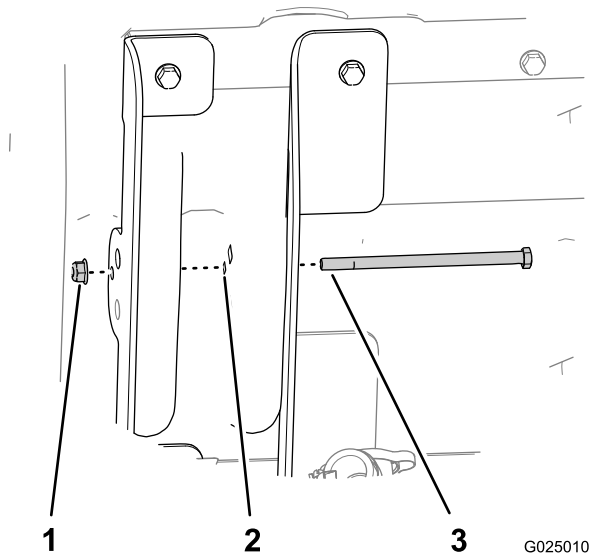

Figure 5
(long flanges), bed structure, and the outboard bed-lift bracket (short flanges) as shown in Figure 5.
8. Secure the bolt with the flange nut (5/16 inch) hand tight (Figure 5).
11. Tighten the flange nut that secure the bolt (5/16 inch) it is snug (Figure 5).